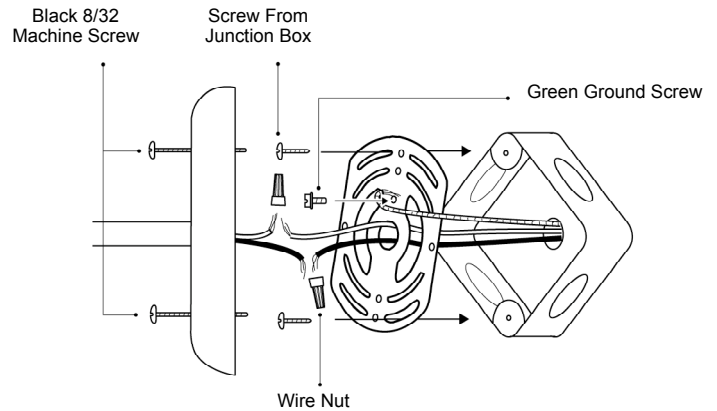

Figure 1
2. **(figure 1)** Pull the positive and negative wires from the junction box through the center hole in the Crossbar.
3. **(figure 1)** Make a hook out of the green or bare copper ground wire and place it over the mounting hole in the Crossbar. Screw in the green ground screw to secure the ground wire to the junction box.
4. **(figure 1)** Screw in the two junction box screws through the slots in the Crossbar to secure the Crossbar to the junction box.